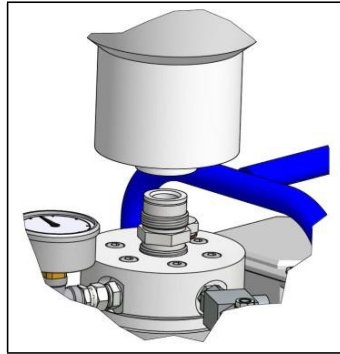

Fig.10.1.2
4. (Fig.10.1.2) Disassembly of the material container (take down from intake valve by manual force)